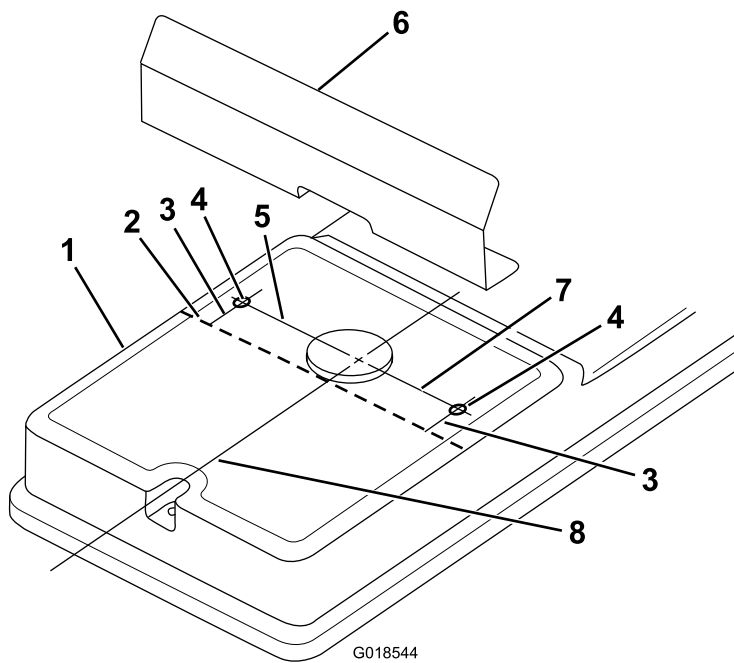

Figure 1
1. Place the deck-belt-cover guard onto the deck-belt cover where it is to be installed, and mark its position; refer to Figure 1.
2. Drill 2 holes (6 mm diameter) in the top of the deck-belt cover in the locations shown in Figure 1.